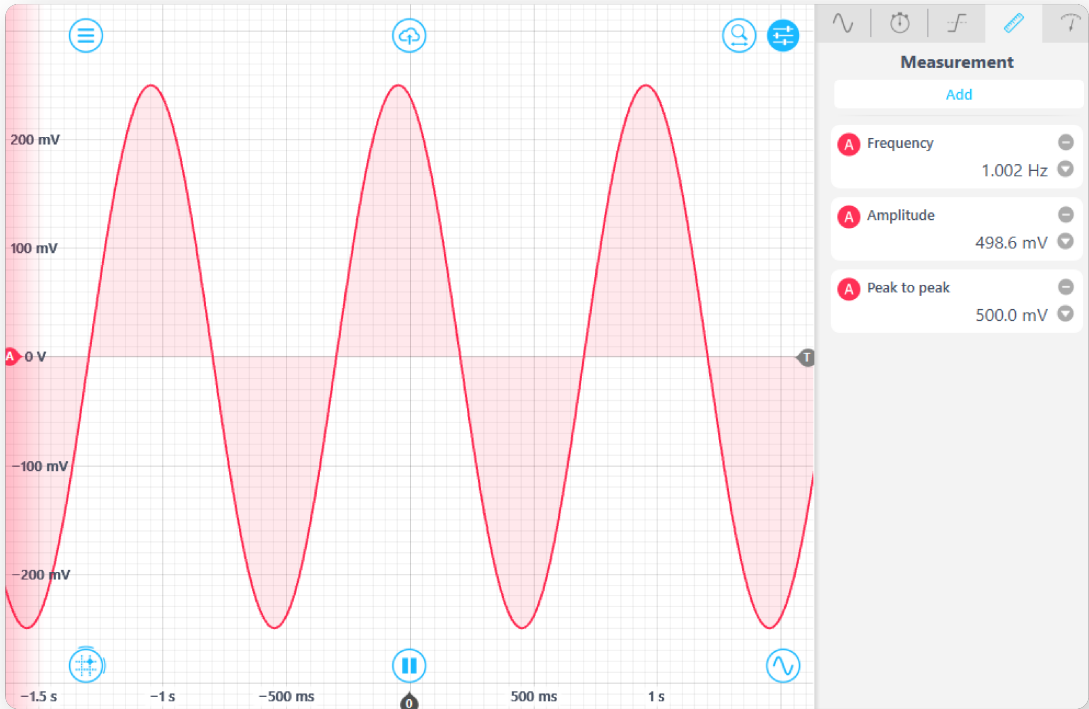

Figure 39. Oscilloscope graph settings to view the decoded PWM signal; a 1 Hz sine wave.
- Adjust the Oscilloscope scale to display the modulation signal. Figure 39 shows the modulation signal is a 1.002 Hz sine wave. The minimum, maximum, and mean interval values in the Time & Frequency Analyzer show the pulse width deviation is 250 μ s (\pm 250 μ s around the mean interval of 300 μ s).